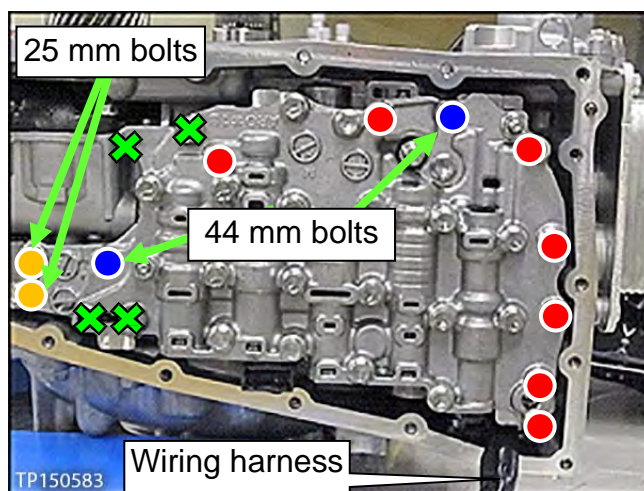

Figure 27
3. Install the Control Valve with nine (9) mounting bolts (Figure 27).
**IMPORTANT:** Leave Four (4) ✕ bolt holes blank at this step.